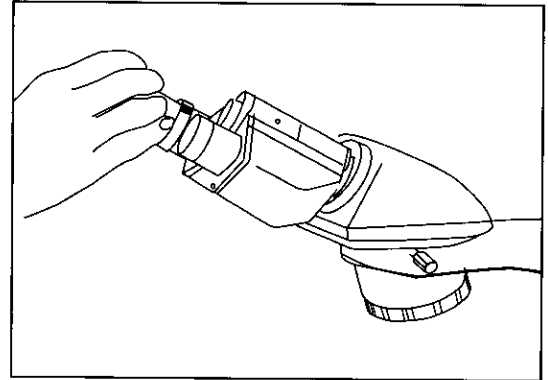

Figure 3
- Install the two eyepieces (MA407) by sliding them into the head. **The eyepieces for MX4000 Series are a DIN and JIS standard 23.2mm diameter.** (Fig.3)